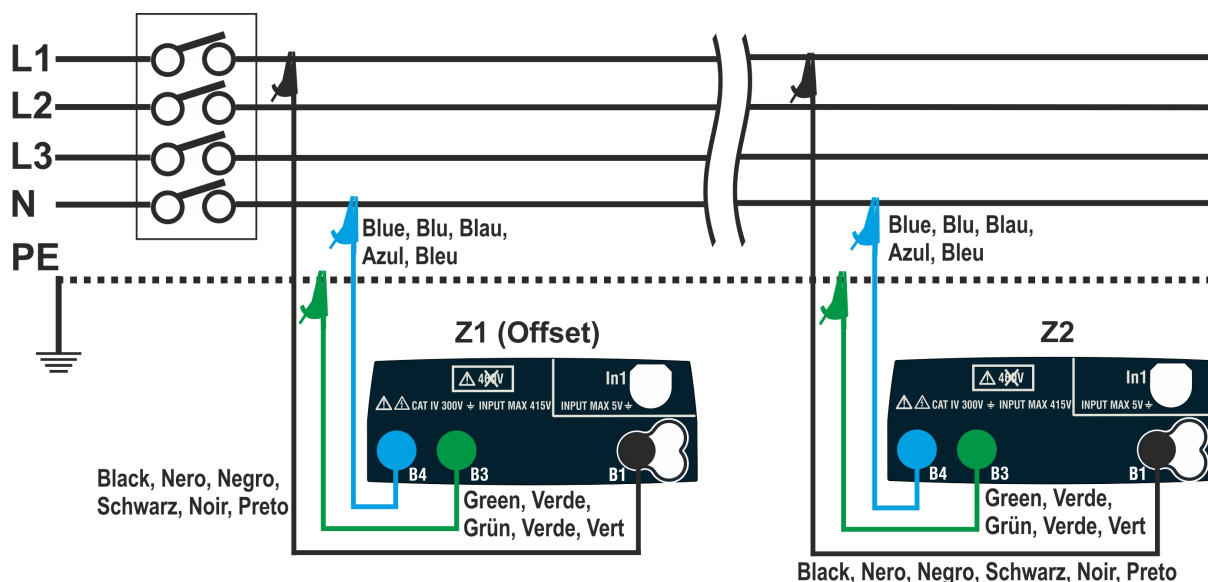
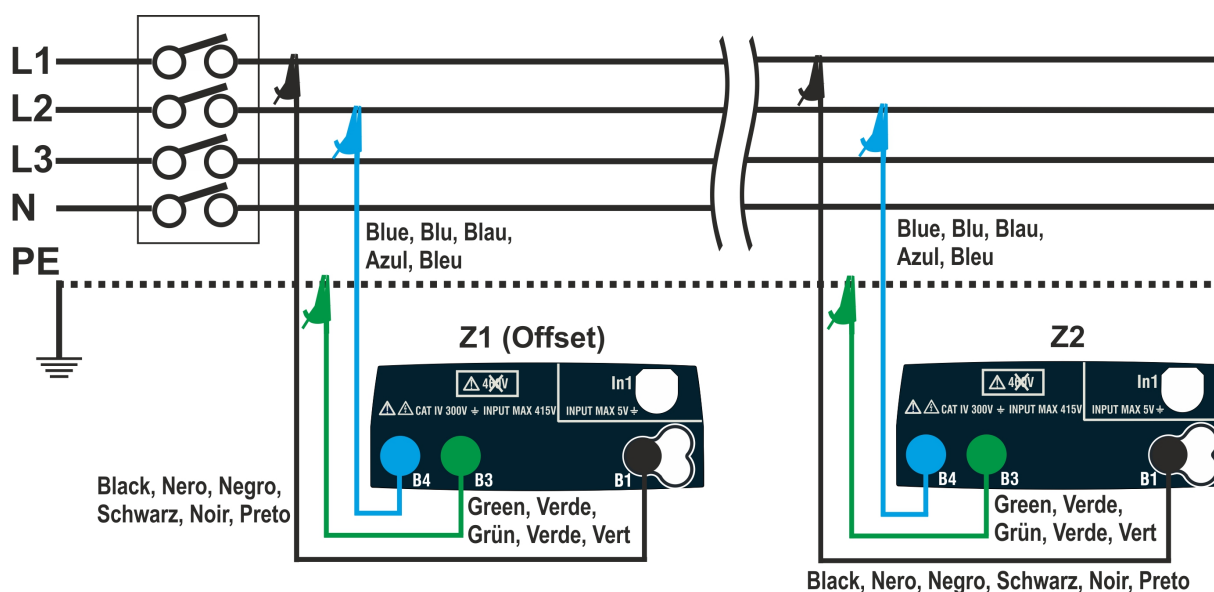

Fig. 36: Connection of the instrument for L-N mode voltage drop measurement
Fig. 37: Connection of the instrument for L-L mode voltage drop measurement
4. Connect the instrument to the initial point of the mains being tested (typically downstream of a protection device) according to Fig. 36 or Fig. 37 in order to carry out the first **Z1 (Offset)** impedance measurement. In this case, the instrument will measure the impedance upstream of the initial point of the mains being tested, taking it as starting reference. The following screen (referred to L-L measurement) appears on the display.
7. Connect the instrument to the final point of the mains being tested according to Fig. 36 or Fig. 37 in order to measure the **Z2** impedance at the end of the line. Note the previously measured Z1 (Offset) value displayed.